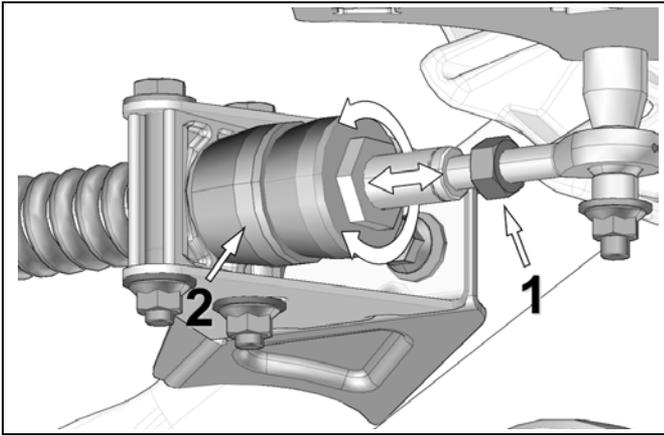

Figure 14
- Loosen jam nut (1). Rotate the stabilizing arm to adjust length of rod end so that no pressure is applied to the rubber cone. (2). Refer to Figure 14.